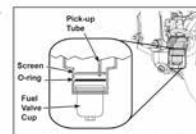

Figure 31. Pick-up Tube and Screen Orientation.
6. Check the O-ring, replace if damaged. Check the screen for blockage or damage, replace if necessary. The new screen must be located on the pick-up tube as shown in Figure 31.
7. Place the O-ring on the screen followed by the fuel valve cap. Rotate the fuel valve cup until it is finger tight. Turn with a wrench 1/2 to 3/4 full turn. See Figure 31.